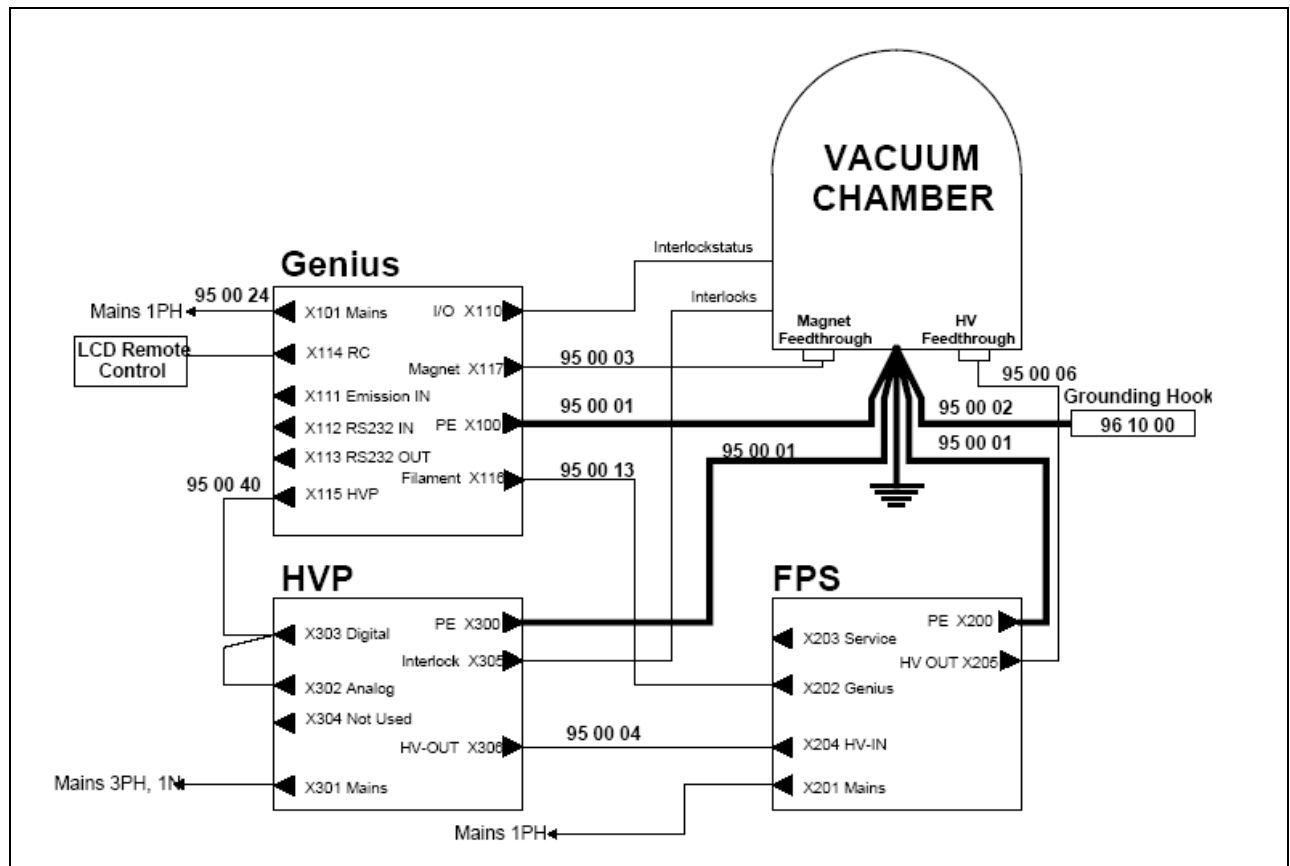
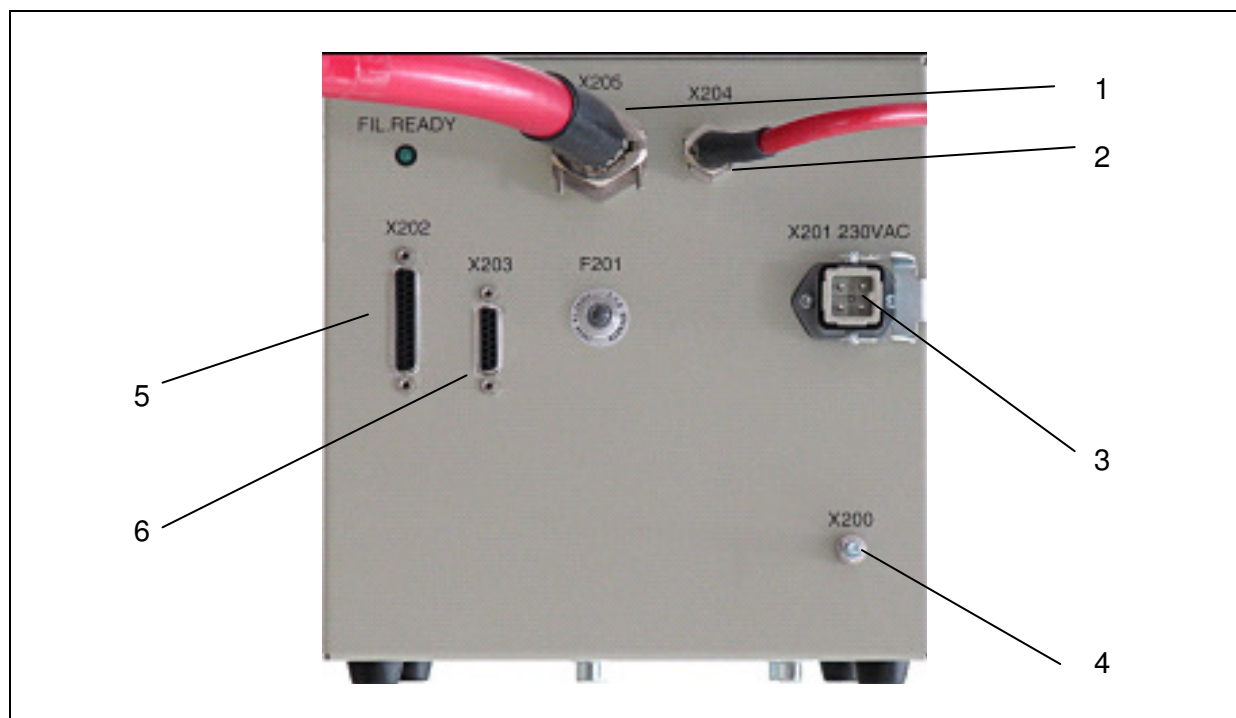

Fig. 5-2 Wiring diagram of the CARRERA-System
Fig. 5-3 Overview of the electrical connectors
- 3 Mains connecting cable (see Fig. 5-2) Nr. 950024
- 4 High voltage cable: HV-Input (see Fig. 5-2) P/N. 950004
- 5 High voltage cable to supply filament (see Fig. 5-2) P/N. 950006
- 6 Grounding cable (see Fig. 5-2) P/N. 95000
- 7 Filament control cable (see Fig. 5-2) P/N. 950013
2. Connect the devices in accordance with the overview of electric connections, Fig. 5-3 and the Fig. 5-2 the wiring diagram of the CARRERA system.